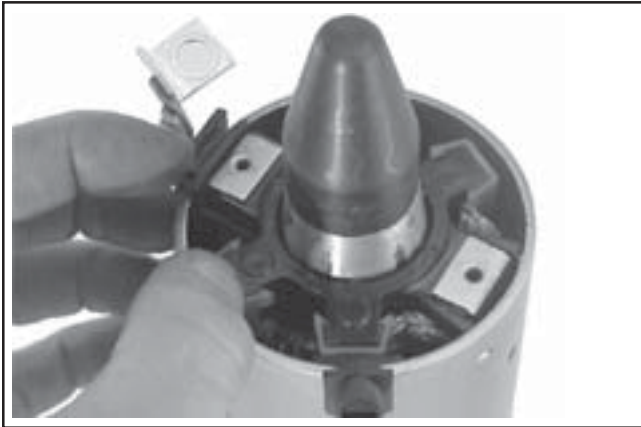

Figure 8-70. Installing Brush Holder Assembly using Tool with Extension.
- d. Hold the starter assembly vertically on the end housing, and carefully place the tool (with extension) and assembled original brush holder assembly onto the end of the armature shaft. Slide the brush holder assembly down into place around the commutator, install the positive (+) brush lead grommet in the cutout of the frame. See Figure 8-70.